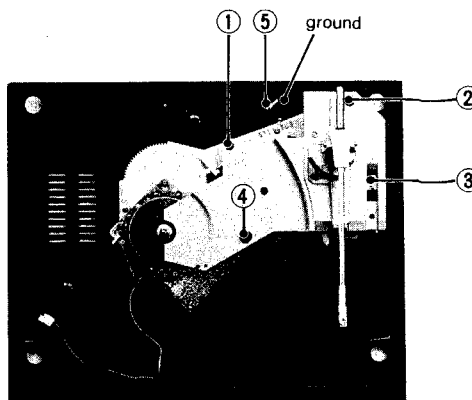

Fig. 9
2. Remove screws ① - ⑤ as shown in Fig. 9.
Note : Check the ground as shown in Fig. 9 to keep away from the arm lever.